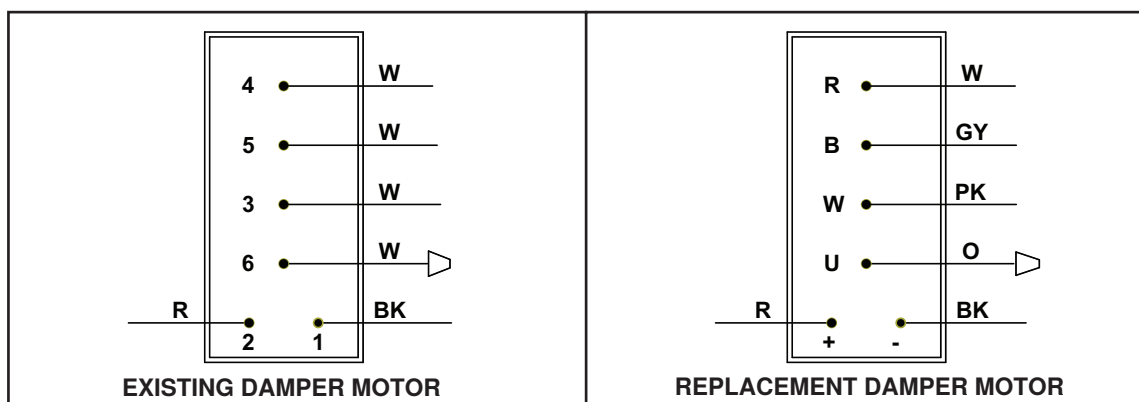

Figure 7. Replacement Damper Motor (PN 159877) Wiring Diagram
4. Connect damper motor wiring in accordance with Table 8 and Figure 7. Ensure that all connections are secure.